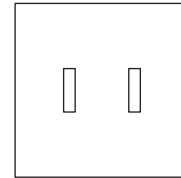

FIGURE P15.41 Old outlet.
- 15.41** (A)* There is an old outlet shown in Figure P15.41. Which of the following equipment cannot be connected to the old outlet?